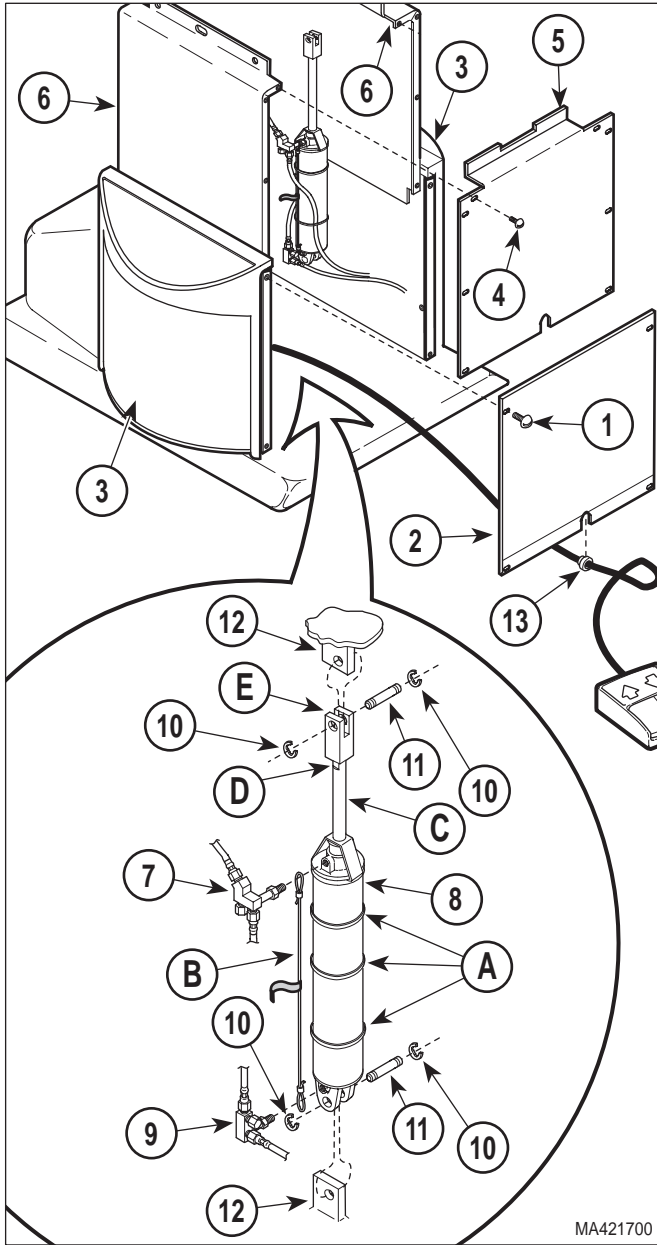

Figure 4-15. Tilt Cylinder Removal / Installation
- (5) Loosen two terminal screws (A) ; then tag and disconnect two tilt cylinder wires (4) from terminal block (5).
- (6) Pull tilt cylinder wires (4) out thru wire hole (B).
- (7) Remove four screws (1, Figure 4-15) and front outer shroud (2) from left and right hand outer shrouds (3).
- (1) Install tilt cylinder (8, Figure 4-15) on brackets (12) and secure with two clevis pins (11) and four E-rings (10).